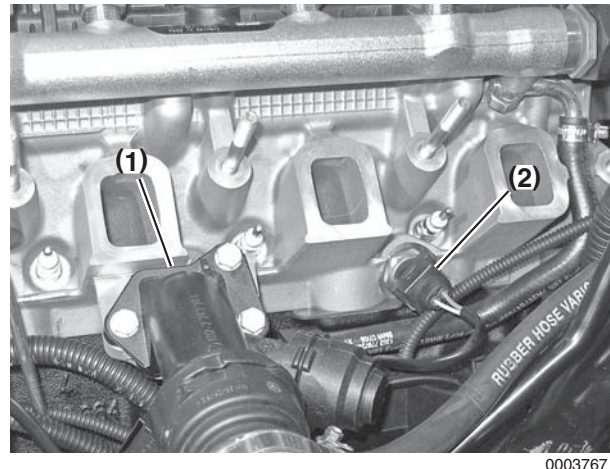

Figure 5-13
15. Remove three bolts and the coolant branch fitting (**Figure 5-13, (1)**).
16. Disconnect electrical connector from the coolant temperature sensor (**Figure 5-13, (2)**).